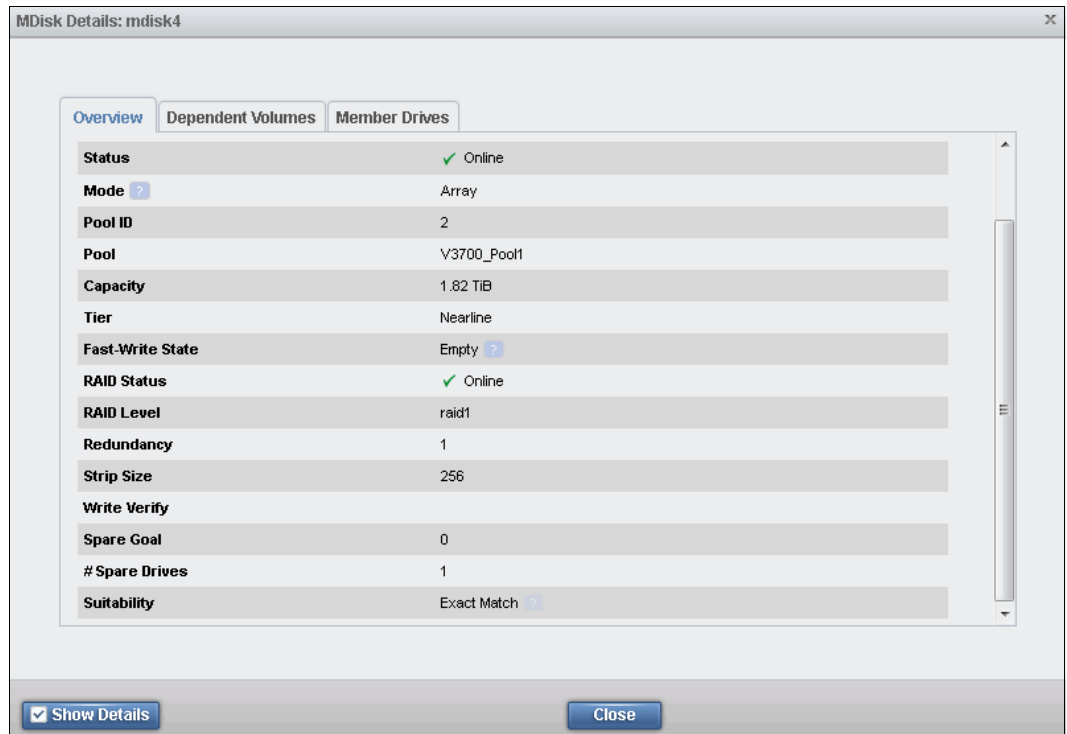

Figure 7-54 MDisk properties overview
- i. The Overview tab (as shown in Figure 7-54) contains information about the MDisk. To show more details, click **Show Details**.